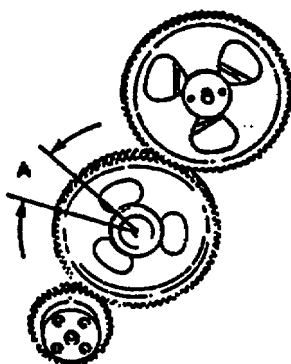

FIGURE 3-73. Gear Backlash.
- (2) Note the camshaft gear backlash. Mark the camshaft gear and crankshaft gear for further analysis if backlash exceeds limits (FIGURE 3-73).